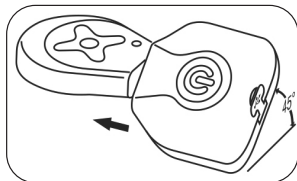

figure 7A: Insert Power Controller wire at 45° angle
- A. Insert the Power Controller Connector into the matching cavity at the base of the Applicator at a 45 degree angle (Figure 7A).